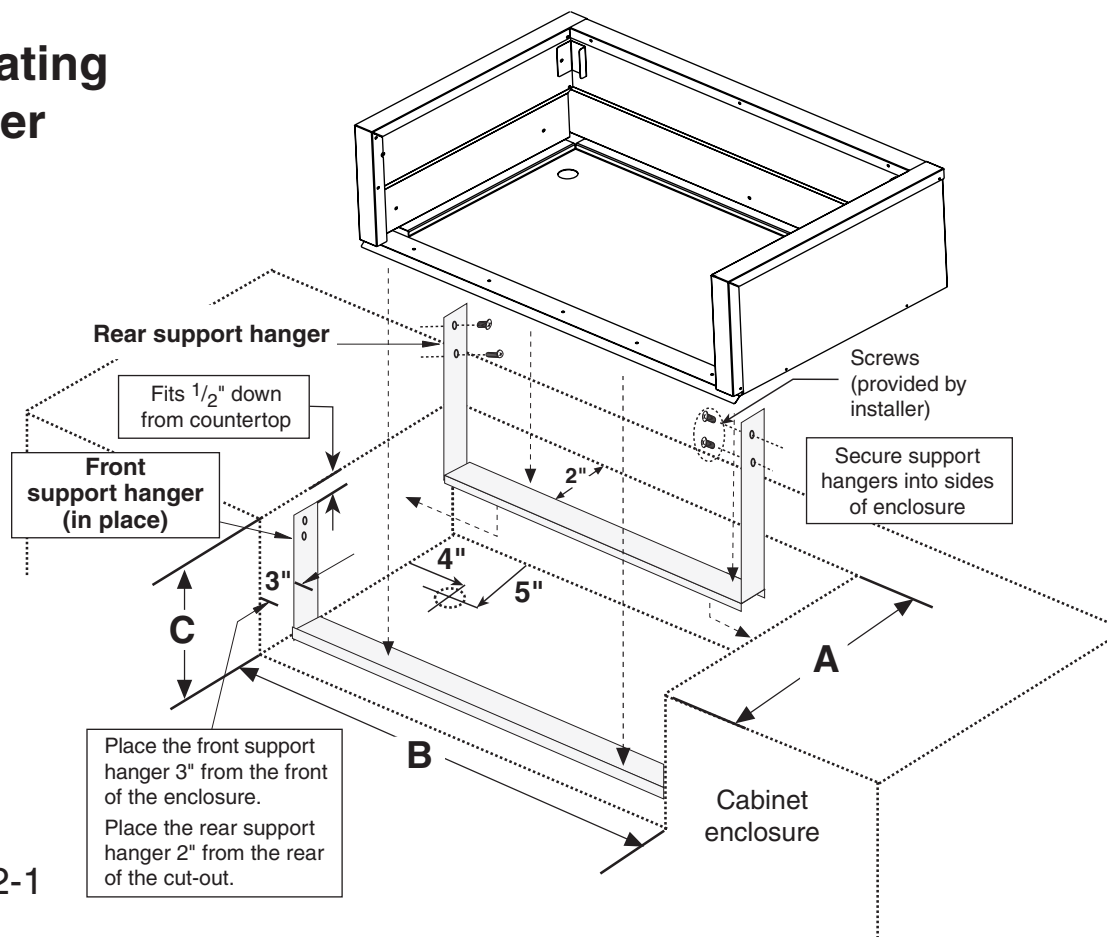

Fig. 2-1
3. Place the insulating liner on top of the support hangers (as shown in Fig. 2-1). Place the insulating liner tightly against the back of the cabinet opening.
Dimensions shown (A, B, and C) are for cabinet openings for barbecue and liner. The dimensions do not include additional allowance for countertops or cabinet facings (see Fig. 2-1).